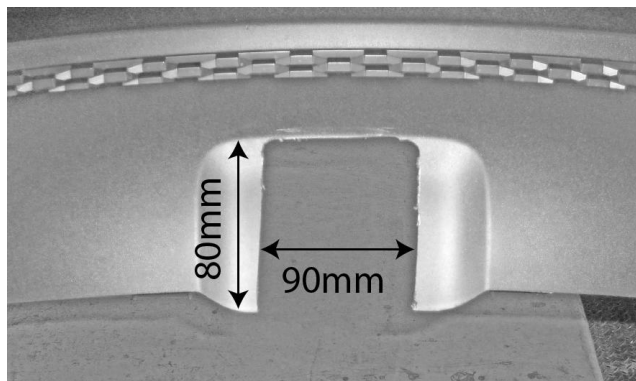

Figure 2 – Bumper Cut out Diagram.
- (j) Cut the bumper, as shown in the illustration in Figure 2.